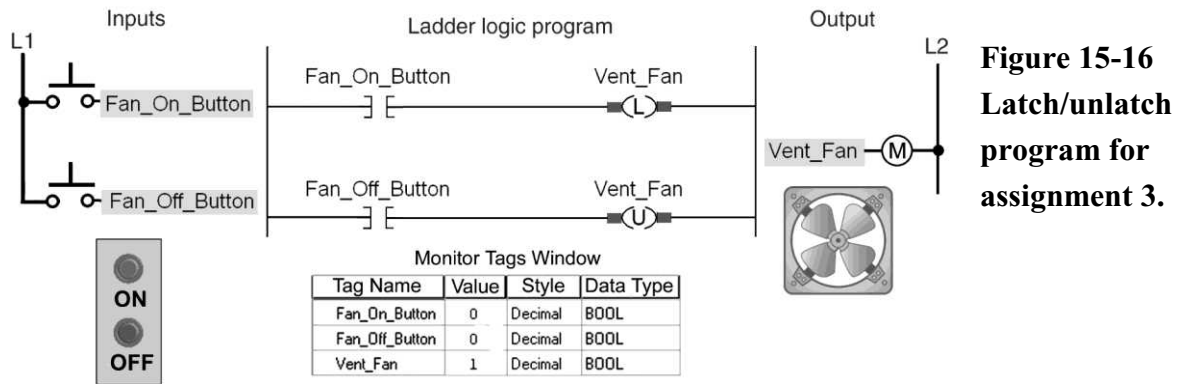

Figure 15-16
- 3) The latch/unlatch program of Figure 15-16 is described in the text.